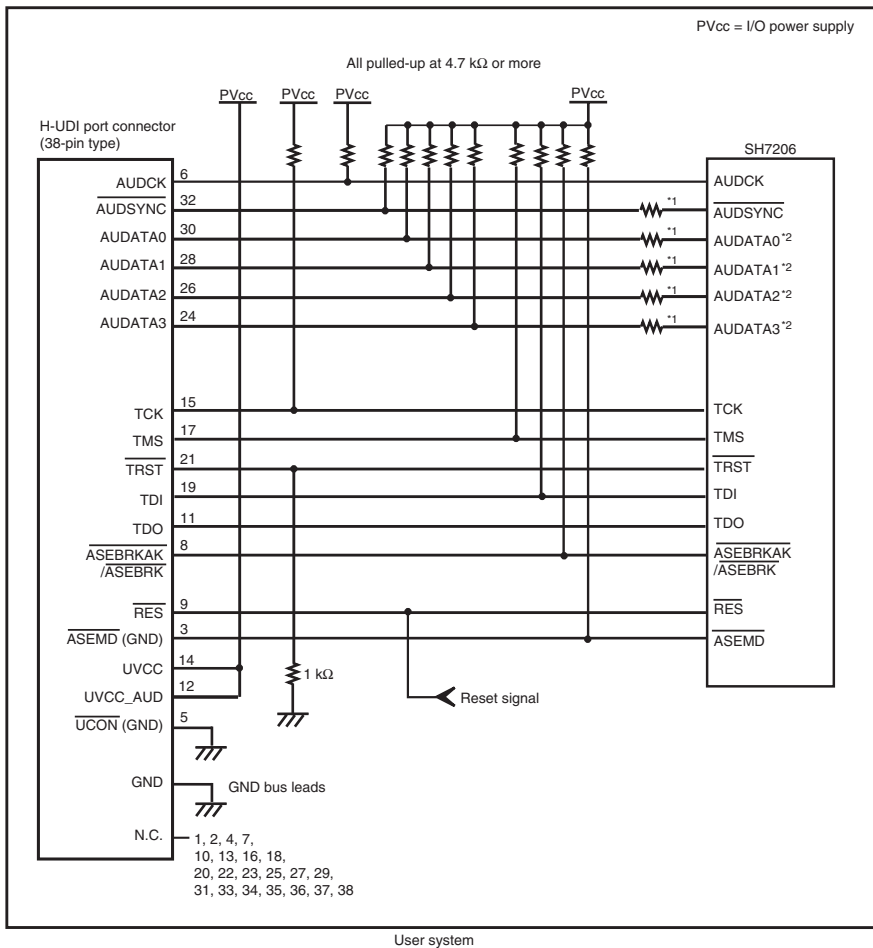

Figure 1.7 Recommended Circuit for Connection between the H-UDI Port Connector and MCU when the Emulator is in Use (38-Pin Type)
Figure 1.7 shows a recommended circuit for connection between the H-UDI and AUD port connectors (38 pins) and the MCU when the emulator is in use.
- (1) When the emulator is used: `_ASEMD = 0`
- (2) When the emulator is not used: `_ASEMD = 1`Figure 1.7 shows an example of circuits that allow the `_ASEMD` pin to be GND (0) whenever the emulator is connected by using the user system interface cable. When the `_ASEMD` pin is changed by switches, etc., ground pin 3. Do not connect this pin to the `_ASEMD` pin.
7. The resistance value shown in figure 1.7 is for reference.
When the circuit is connected as shown in figure 1.7, the switches of the emulator are set as SW2 = 1 and SW3 = 1. For details, refer to section 3.8, Setting the DIP Switches, in the SuperH™ Family E10A-USB Emulator User's Manual.